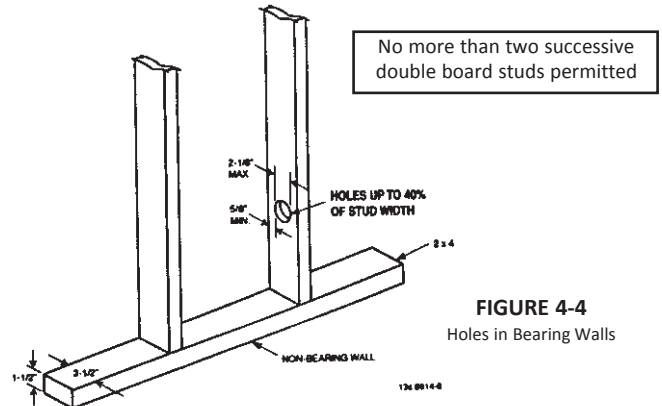

FIGURE 4-4
- Where holes are to be bored in bearing vertical members of the wall framing, the size of such holes shall not be larger than 40 per-cent of the width of the member. Holes up to 60 percent of the member's width are permitted if the members are doubled. No more than two successive double bored members are permitted.(See figure 4-4.)